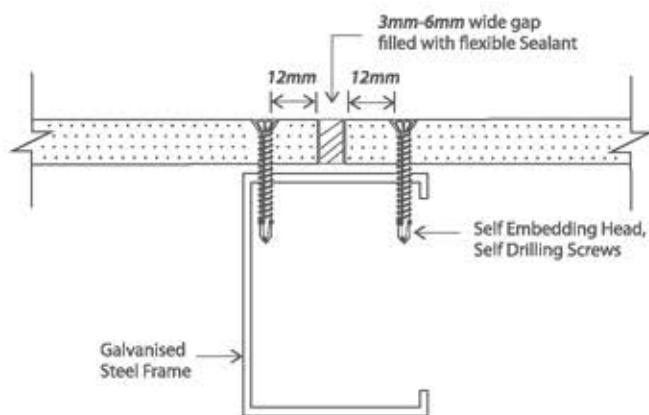
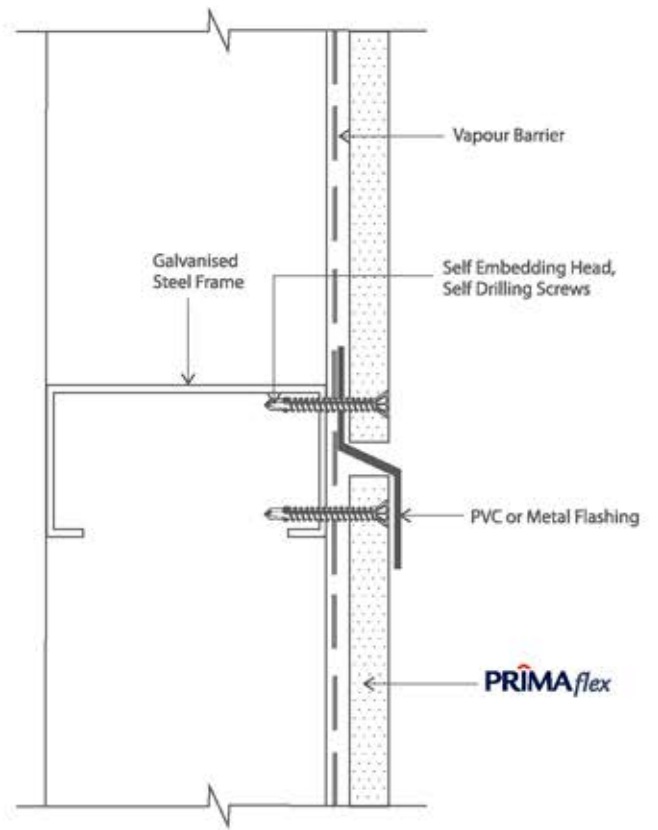

Figure 2.6: Sealant Joint
Figure 5.4 – Horizontal Joint
3. Jointing system which include sealant joint with 3 to 6mm gap between boards is illustrated in Figure 2.6.
Horizontal joints occur when a building height exceeds the length of a full size sheet or when a building is more than one storey high. At horizontal joints, boards must be supported and secured to framework (noggin). Provide preformed PVC or galvanised steel flashings to all **PRIMAflex** horizontal joints. Flashings should be fixed to noggings at **200mm** centres. Refer to *Figure 5.4*. Board joint can also be covered with sealant mould or timber joint as shown on *Figure 2.6* and *2.7*.